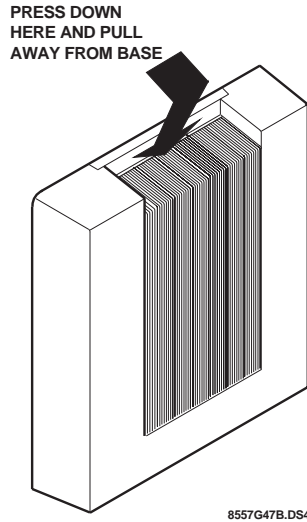

Figure 2. Removing the Cover
2. Remove the HOM cover and set it aside (Figure 2).
2. Remove and discard the HOM cover (Figure 2).